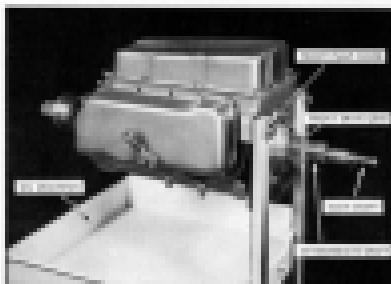

Fig. 576. Transmission Body for Dismantle.
11. Place transmission into holding fixture. (Fig. 576)